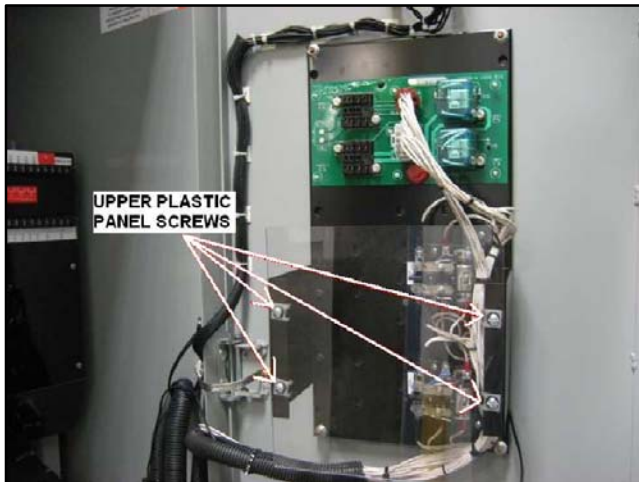

Figure 37 Remove Plastic Cover on Interface Panel
28. Remove the plastic cover from the interface panel components on the upper door. See Figure 37.